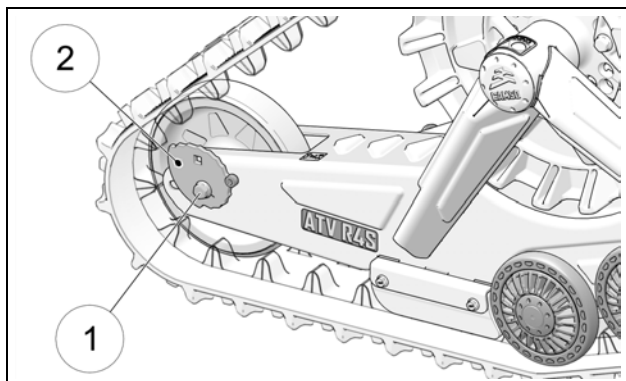

Figure 25
- Loosen both tensioner side wheel shaft bolts (1), enough to allow tensioner cams (2) to turn. Figure 25.